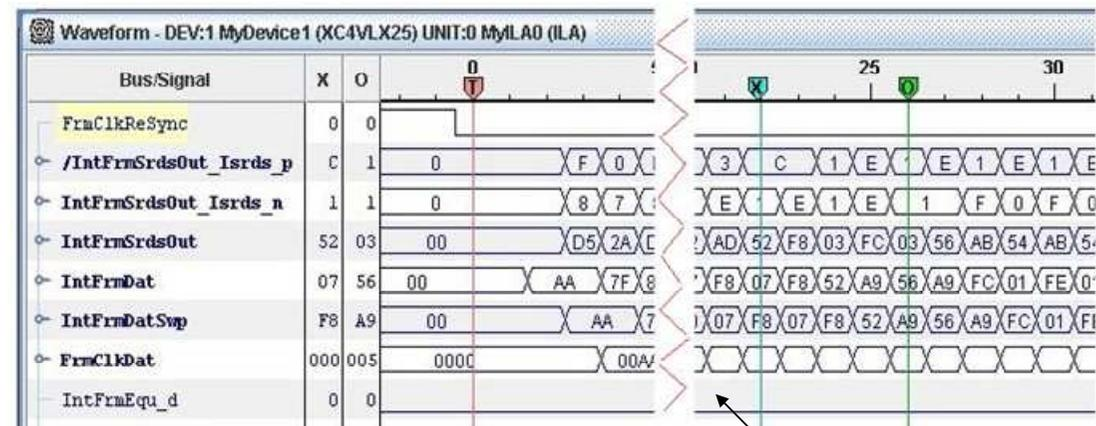

Figure 1
An ISERDES outputs then sometimes twice the same data. This is shown in figure 1.
- The results from figure 1 taken apart:
This is the pattern seen in the Figure 1 on previous page.